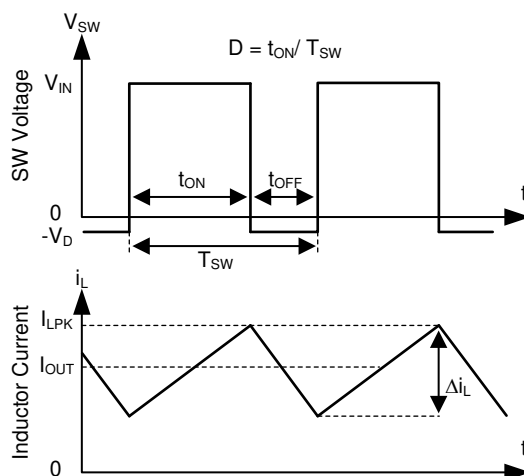

图 8-1. SW Node and Inductor Current Waveforms in Continuous Conduction Mode (CCM)
The following operating description of the LMR23630 refers to 节 8.2 and to the waveforms in 图 8-1. The LMR23630 is a step-down synchronous buck regulator with integrated high-side (HS) and low-side (LS) switches (synchronous rectifier). The LMR23630 supplies a regulated output voltage by turning on the HS and LS NMOS switches with controlled duty cycle. During high-side switch ON-time, the SW pin voltage swings up to approximately V_{IN} , and the inductor current i_L increase with linear slope $(V_{IN} - V_{OUT}) / L$. When the HS switch is turned off by the control logic, the LS switch is turned on after an anti-shoot-through dead time. Inductor current discharges through the LS switch with a slope of $-V_{OUT} / L$. The control parameter of a buck converter is defined as duty cycle $D = t_{ON} / T_{SW}$, where t_{ON} is the high-side switch ON-time and T_{SW} is the switching period. The regulator control loop maintains a constant output voltage by adjusting the duty cycle D . In an ideal buck converter, where losses are ignored, D is proportional to the output voltage and inversely proportional to the input voltage: $D = V_{OUT} / V_{IN}$.